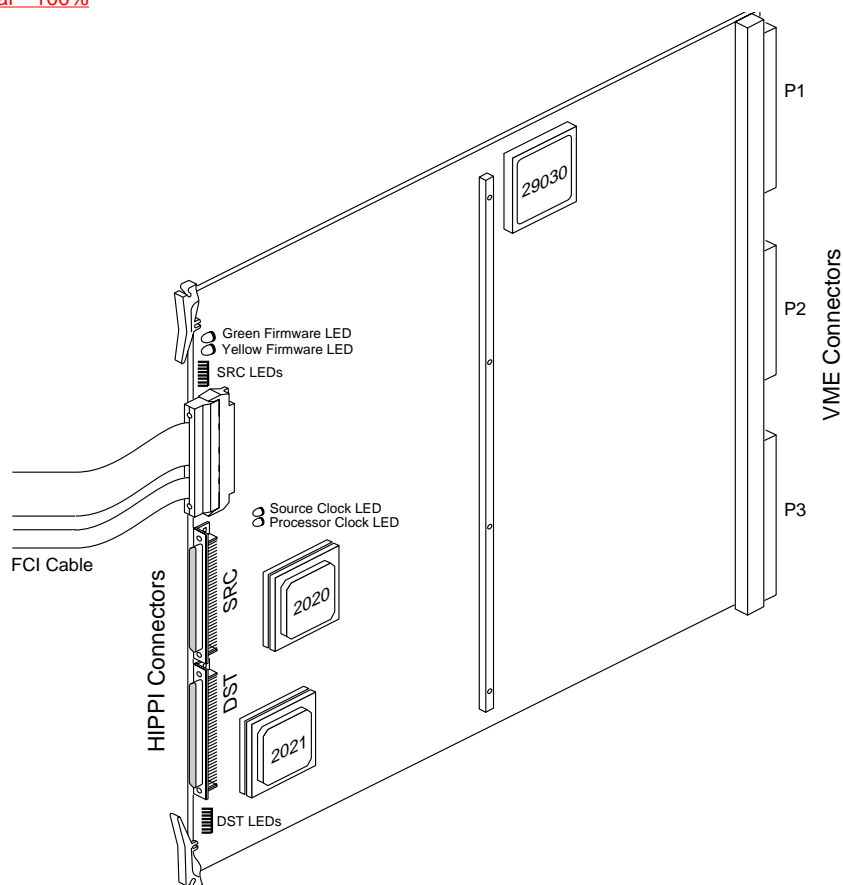

Figure 2-28 IRIS HIPPI Board
1. Hold the HIPPI board vertically so that the HIPPI and FCI connectors face you, the VMEBus connectors face away from you, and the side of the board with the most components faces to your right, as shown in Figure 2-28.